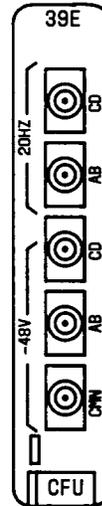

Fig. 1—Channel Fuse Unit
1. Get 39E CFU (Figure 1) and inspect for possible damage.